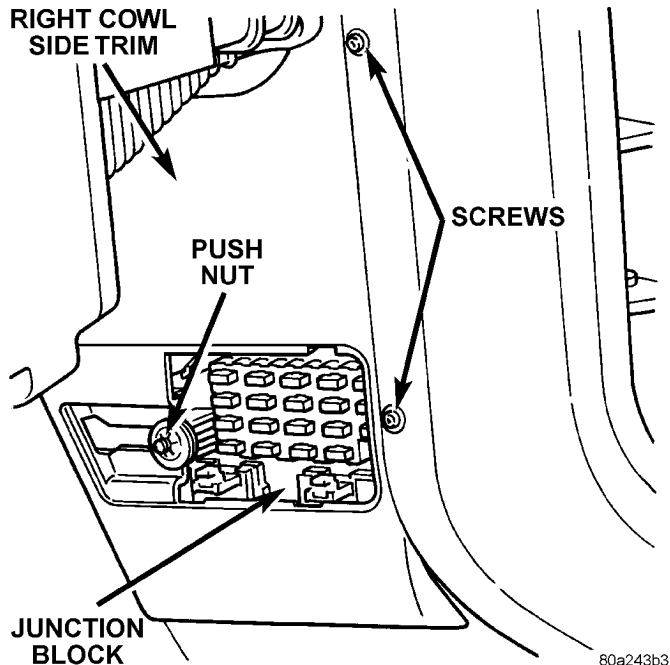

Fig. 12 Right Cowl Side Trim Remove/Install
- (1) Disconnect and isolate the battery negative cable.
- (2) Remove the fuse access panel by unsnapping it from the right cowl side trim panel.
- (3) Remove the push nut that secures the right cowl side trim panel to the junction block stud (Fig. 12).